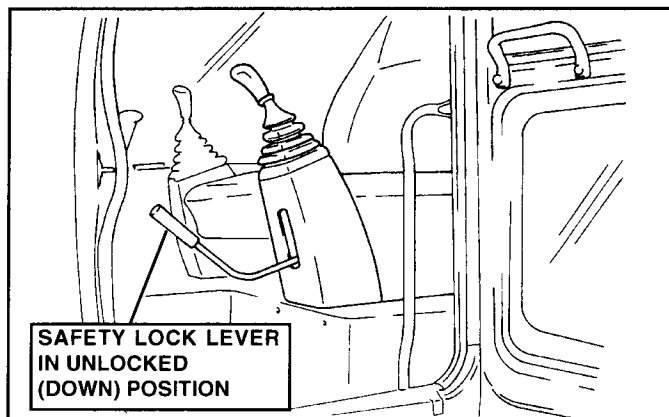

FIGURE 8.17
1. Start Machine and place the Safety Lock Lever in the "UNLOCKED" (Down) position. See Figure 8.17.